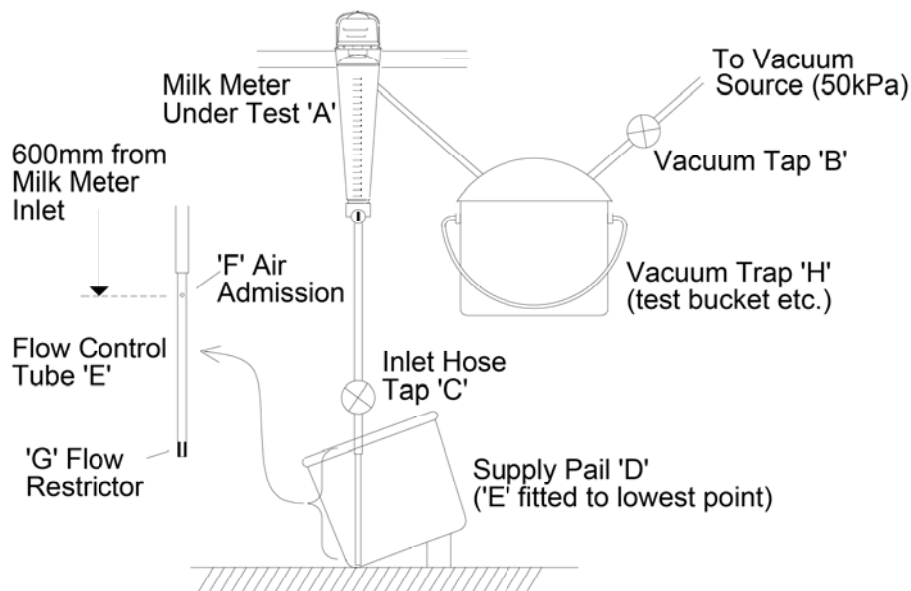

Fig 11.1 Basic Milk Meter Test Rig
11.1. BASIC TEST RIG SET UP (refer to Fig 11.1)